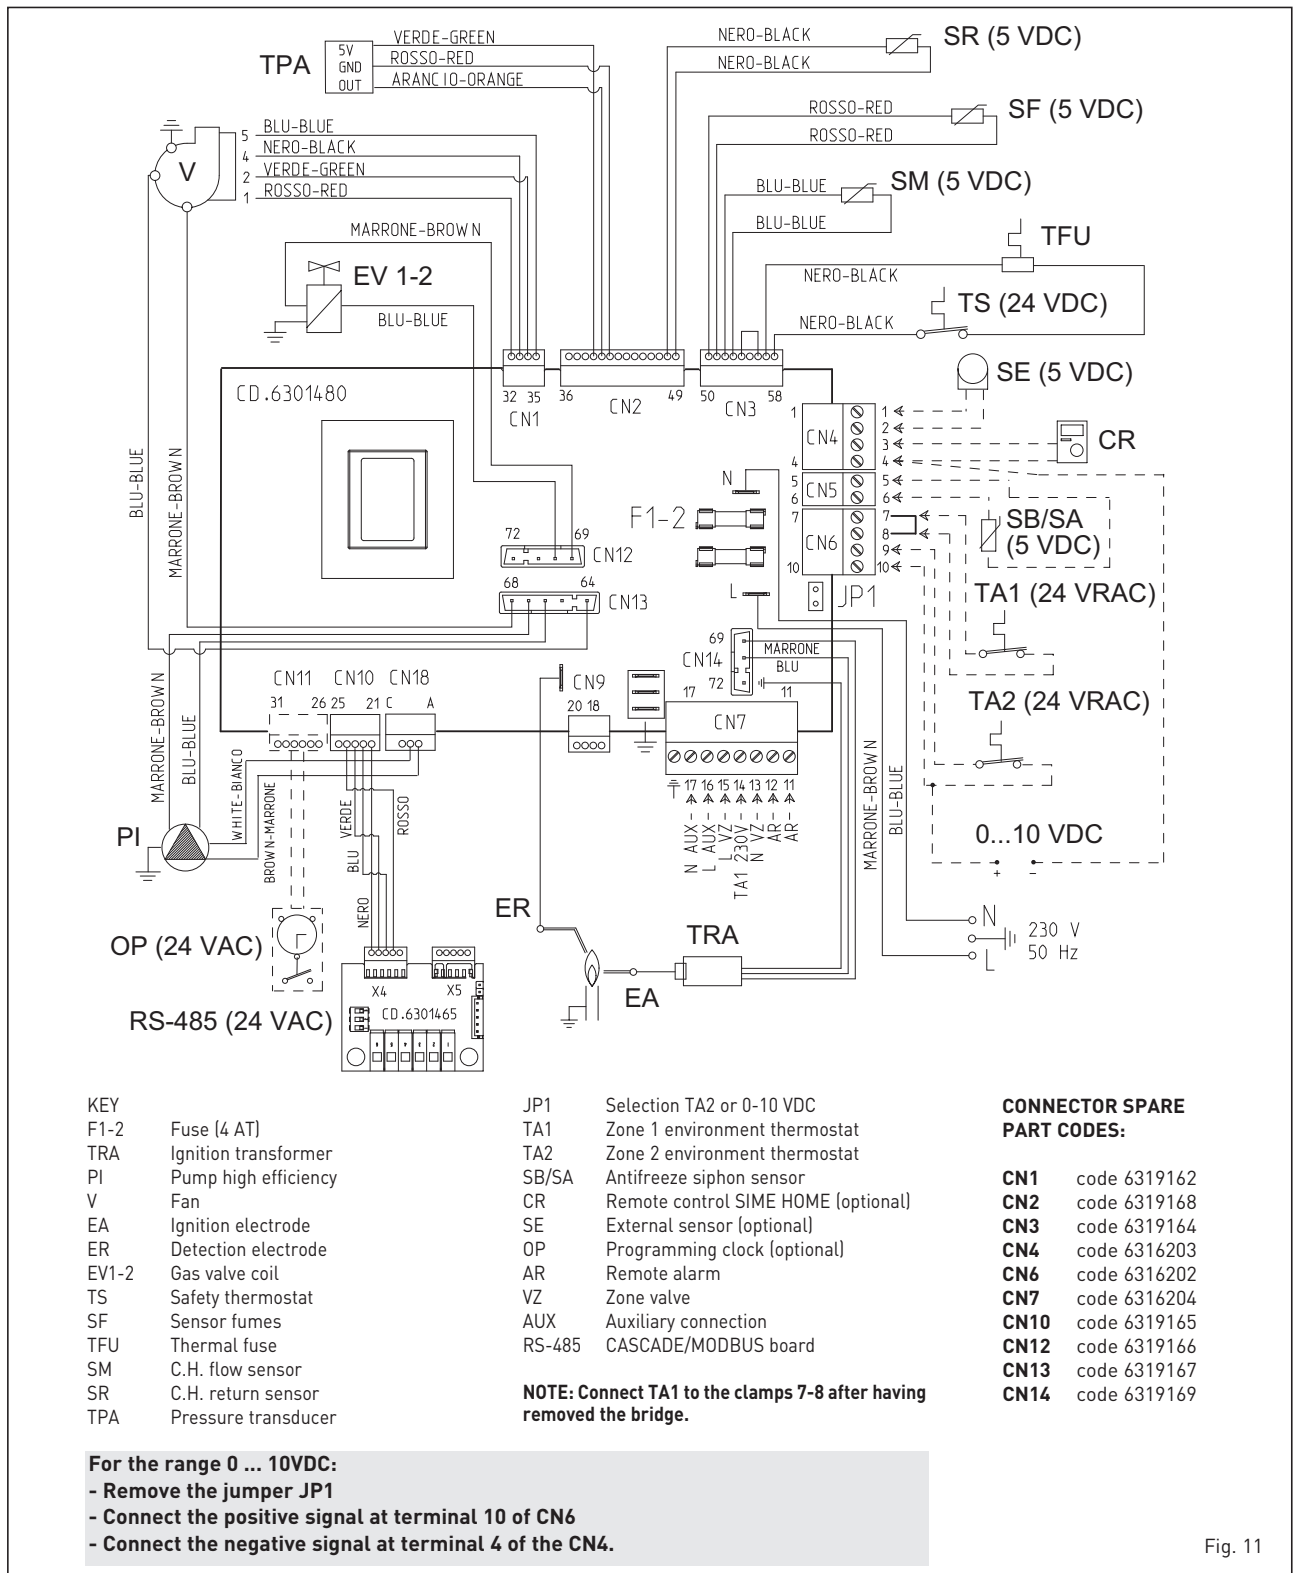

Fig. 11
2.11.1 Wiring diagram single generator (fig. 11)
2.11.2 Electrical connection of modules in sequence/cascade (fig. 11/a)